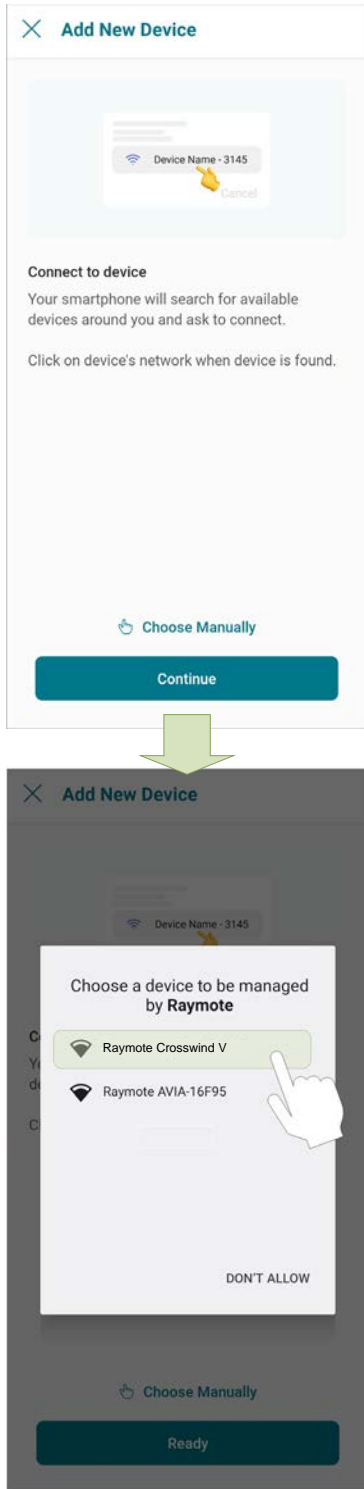

Figure 75. Connect with Android Smart Phone
3. **In Android:** Depending on your configuration, one or more devices will appear on the app. Select the HOTSPOT identifier that matches the unit's display as shown in Figure 75.